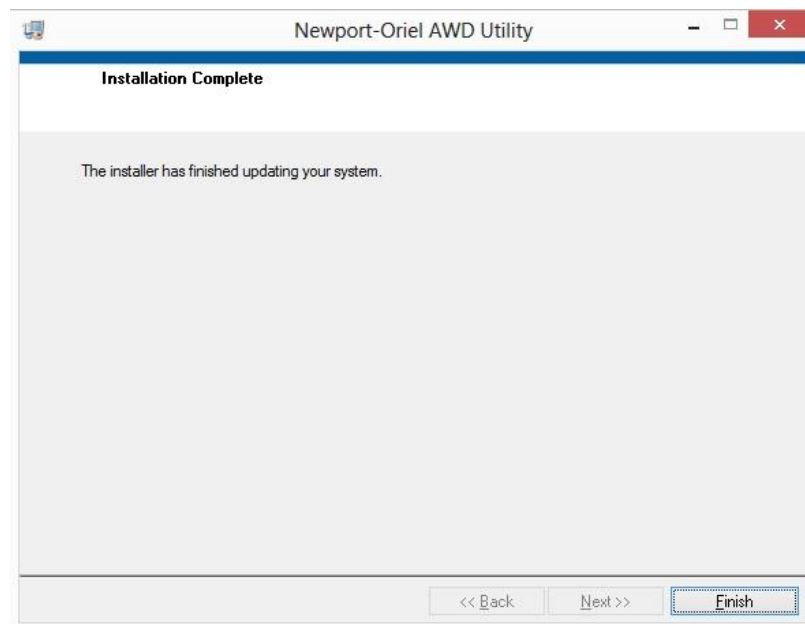

Figure 19: Finish Installation
- When the installation is complete, click “Finish”. Refer to Figure 19.